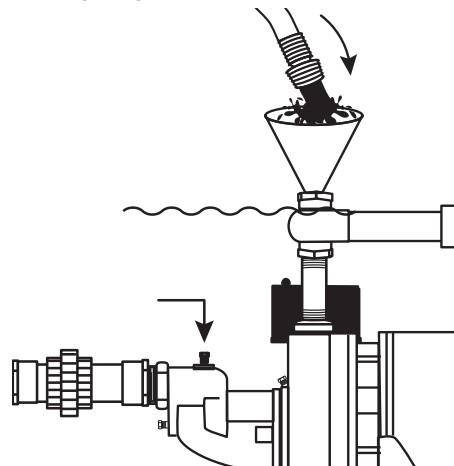

Figure 29 - Replace air relief plug
3. Replace air relief plug and continue adding water to pump cavity until water reaches the top of the priming plug. (Fig. 29)